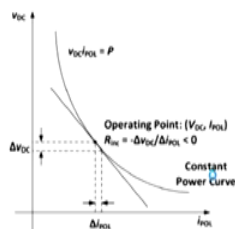

Fig.2 Negative incremental impedance induced by POL converters.
- The incremental resistance mathematically expressed by (1) and also as can be seen in Fig.2: